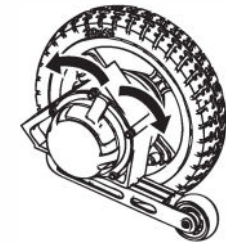

Fig.11
- With the motor freewheel levers set to manual, the powerchair should move freely when pushed by hand. With both freewheel levers set to electric, it should not be possible to move the powerchair by hand(**Fig.11**).